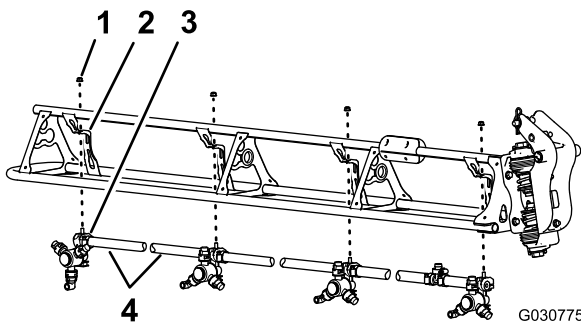

Figure 97
1. Cut the hose between 2 sprayer nozzles (Figure 97).
2. Remove the flange locknut (5/16 inch) that secures the sprayer nozzle to the nozzle support (Figure 97).